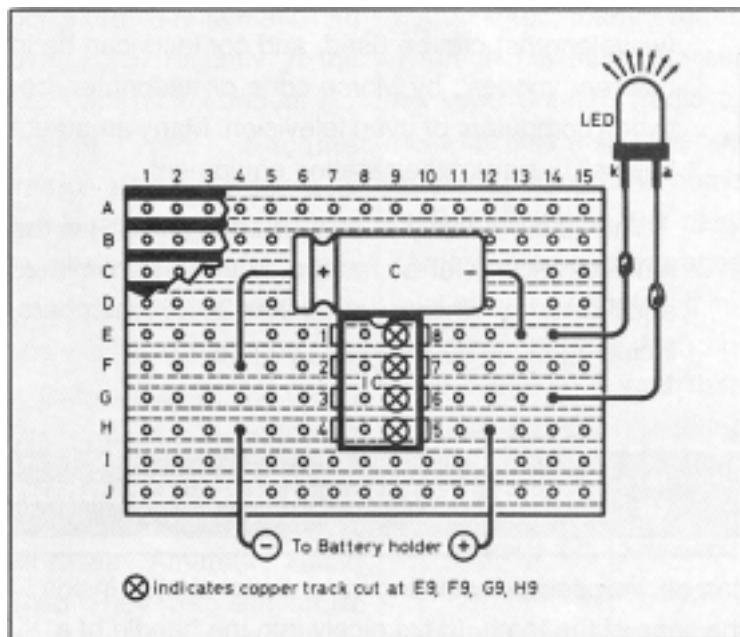

Figure 2 Board layout viewed from the component side. The tracks are cut under the board where shown
The circuit can be built on a small piece of Veroboard (the piece shown in **Figure 2** measures 15 holes by 10 strips). Using such a board, follow these instructions.
1. Depending on how far away you want the LED from the circuit board, solder a length of insulated wire to each lead of the LED. Use different colours of insulation – say, red and black, connecting the *red* lead to the *anode* (a) lead (the longer one) of the LED, and the black one to the *cathode* (k). **Figure 2** shows these leads.
2. Cut the copper tracks as shown in **Figure 2**, using a 3 mm ($\frac{1}{8}$ inch) diameter drill, rotated between thumb and forefinger, or use the proper tool. Make *absolutely* sure that the tracks are completely broken!